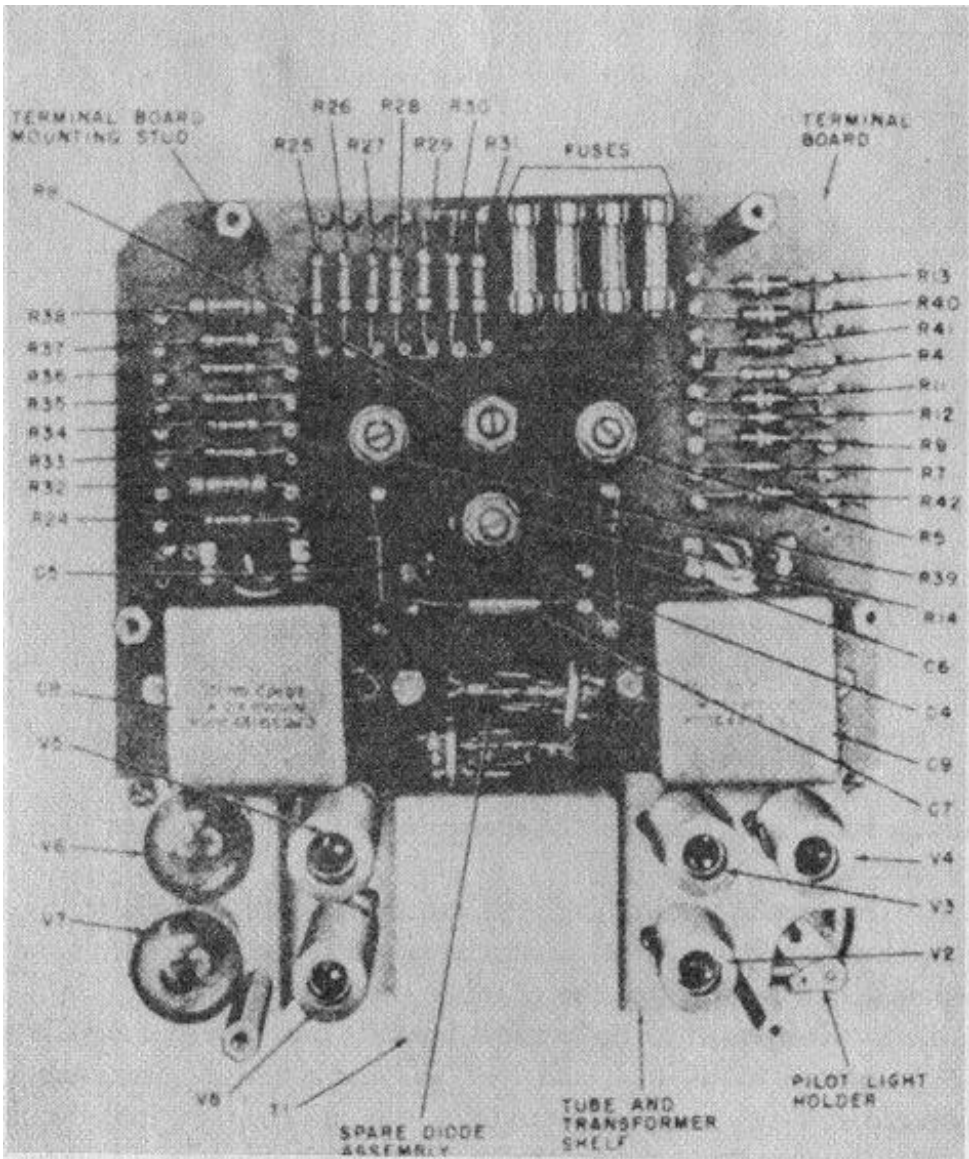

Figure 13. Electronic Multimeter TS-505/U, rear view.
Many of the components of Electronic Multimeter TS-505/U may be salvaged if it is decided that the equipment will not be repaired (figs. 13, 14, and 15).
- a. The terminal board (fig. 13) can be removed by unfastening the four studs which hold it in place. Remove defective components on the terminal board and place the board in stock for re-use.